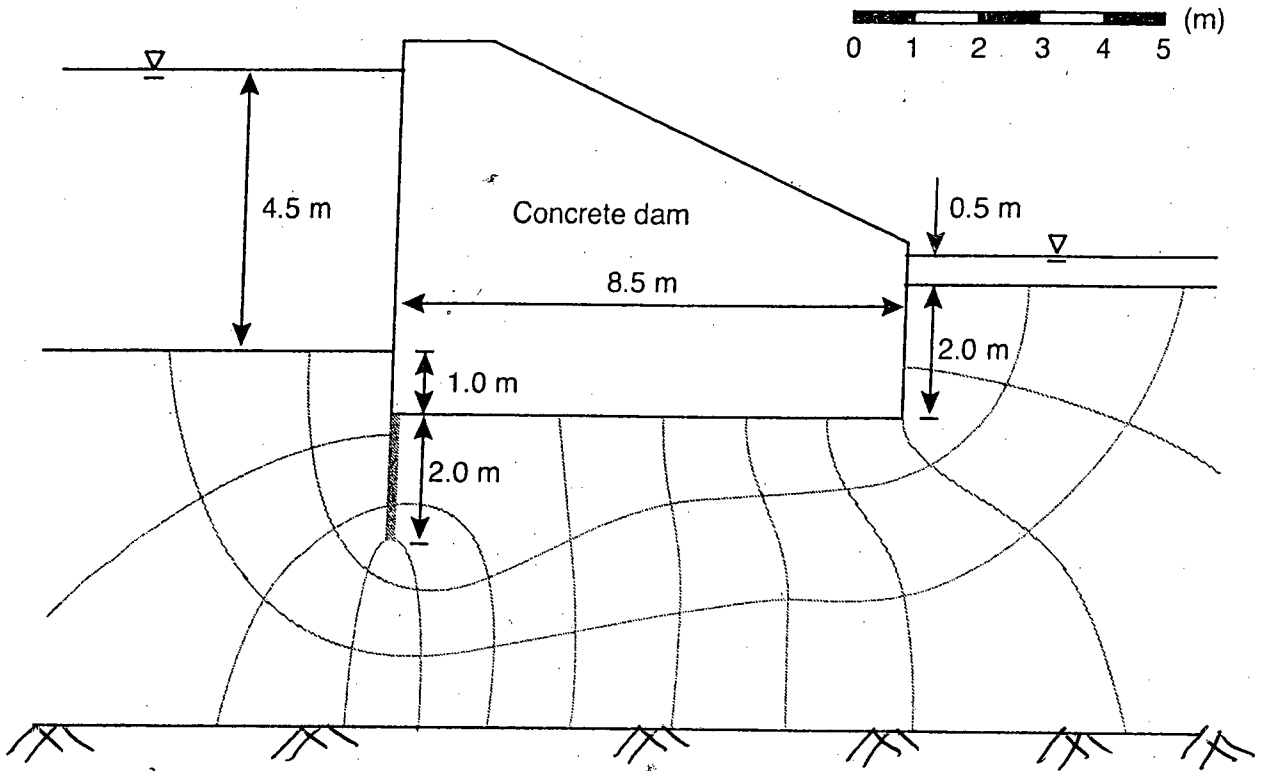

Fig. 2
- (b) Write down the step by step procedure for constructing field **e vs. log (p)** curve for OC clays. (10)
- (c) Write short notes on (i) coefficient of volume compressibility, and (ii) secondary consolidation. (10)
7. (a) Seepage takes place beneath the concrete dam with vertical cut off (2 m length) is shown in Fig. 2. The permeability of the fine, silty sand beneath the dam is  $3.6 \times 10^{-4}$  cm/sec. Find the following: (262/3)
- (b) Describe the mechanism of piping. How the factor of safety against piping can be increased for a hydraulic structure? (10)
- (c) Why a filter is used on the downstream side an earth dam/embankment? How would you design a filter? What is graded filter? (10)